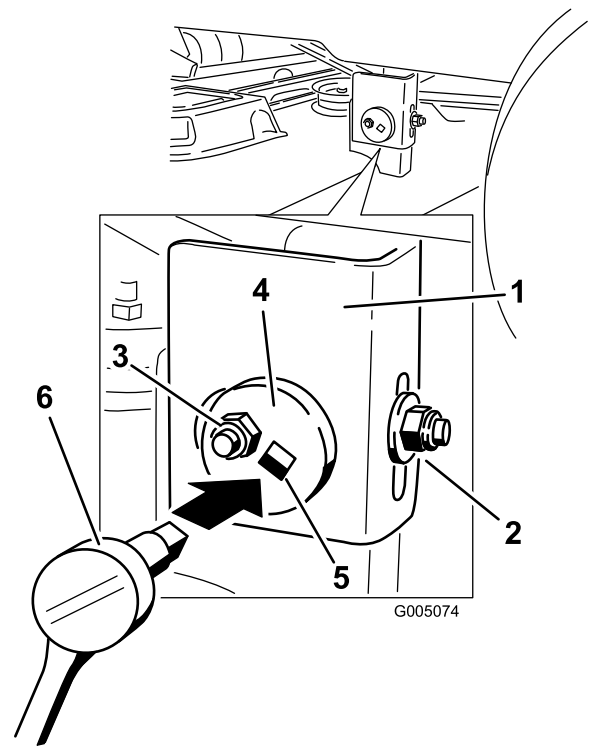

Figure 51
- Move to the left side of the machine. Loosen, but do not remove, the rear locking nut on the hanger bracket (Figure 51).
- Loosen the side locking nut on the hanger bracket just enough to allow the eccentric plate to be adjusted (Figure 51). Use a 3/8 inch drive extension on a socket wrench to manipulate the eccentric plate. Use the wrench to reposition the height of the cutter deck and adjust to the desired height.
- Stop the deck at the adjusted position and tighten the side locking nut on the hanger bracket to hold the new position (Figure 51). Tighten the rear locking nut on the hanger bracket.